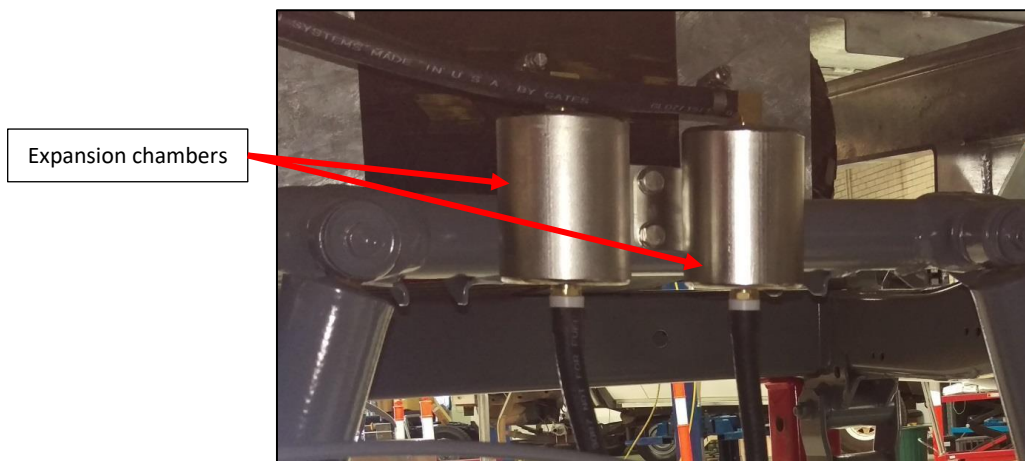

Fig. 26
22. Fit the rear expansion chambers- See Fig. 26